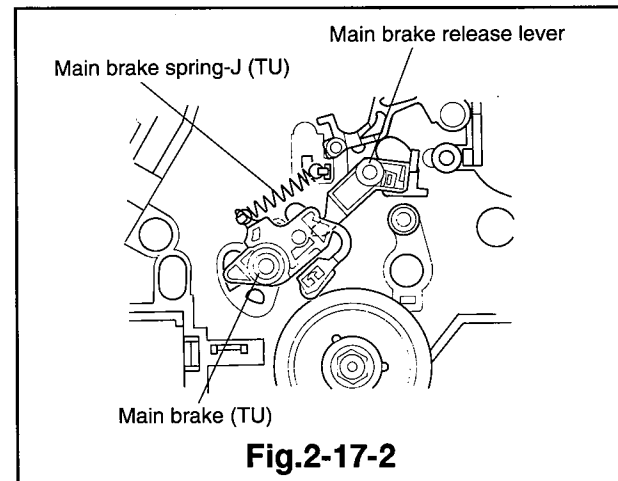

Fig. 2-17-2
- ① Install the main brake(TU) on the main plate assembly so that the coupling portion with the main brake release lever is as shown in Fig. 2-17-2.
- ② Install the main brake spring J(TU).
- ③ Install the sub brake(TU), the sub off lever, and the sub spring(TU). (Refer to Para. 2-16 for the installation method.)
- ④ Install the sub brake(SP) and the sub spring(SP). (Refer to Para. 2-14 for the installation method.)
- ⑤ Install the cassette housing. (Refer to Para. 2-1 for the installation method.)